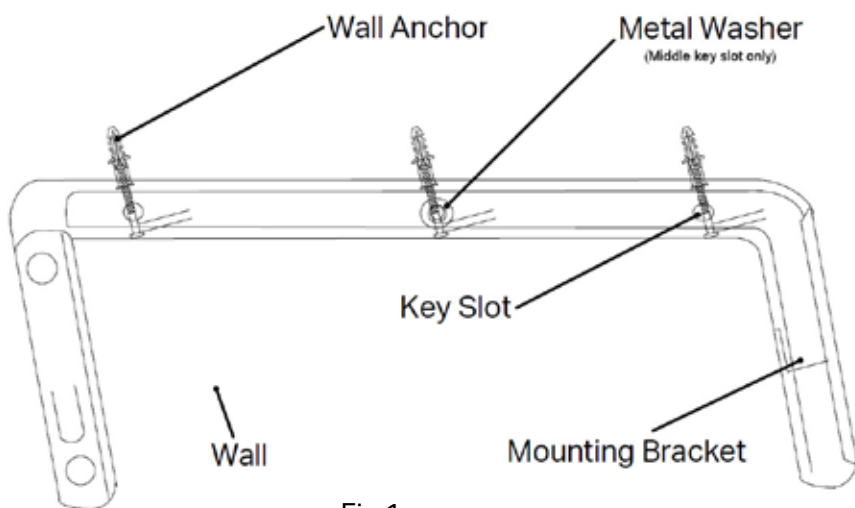

Fig.1
4. Install 3 x ST4*35 Screws and 1 x Washer provided, leaving about 1/4 inch between the head of the screws and the mounting surface. Slip the Mounting Bracket over the screw heads and slide the bracket to engage the screws in the slots. Tighten the Screws securely. See Fig. 1